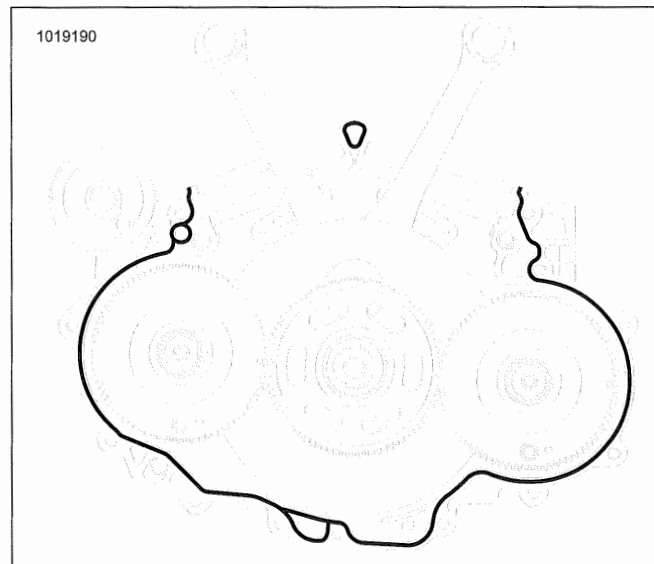

Figure 4-63. Sealant
- See Figure 4-63. Apply a bead of sealant to specification to the split line face of right crankcase half.